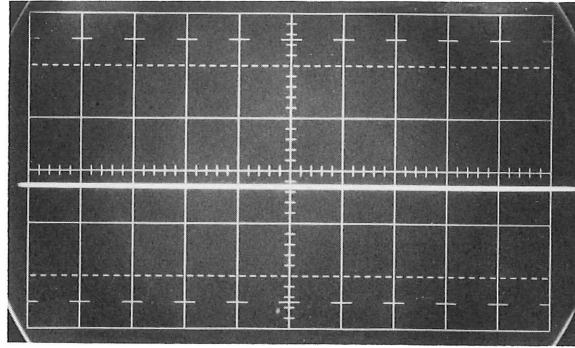

Figure 23
5. Set the MODE sw to ADD and check for less than .5 cm of deflection. See Figure 23.